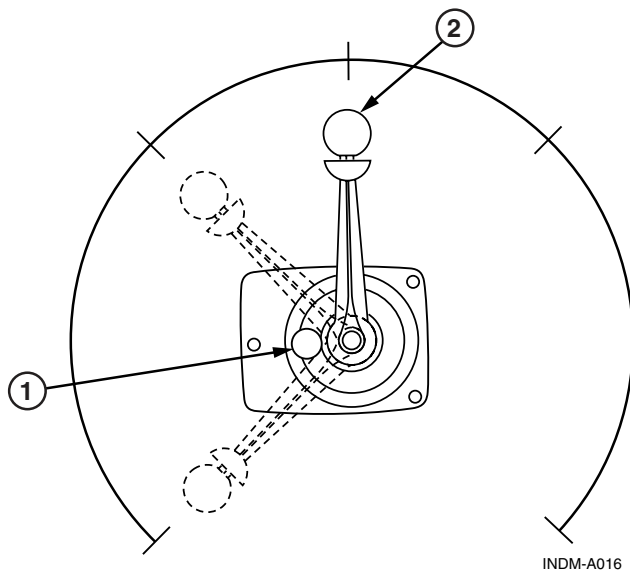

Figure 3.4 – Typical Shift/Throttle Lever
1. Check throttle lever (2, Figure 3-4) to make sure it is pulled out (or shift interlock button, 1, activated) so that boat is still in NEUTRAL.